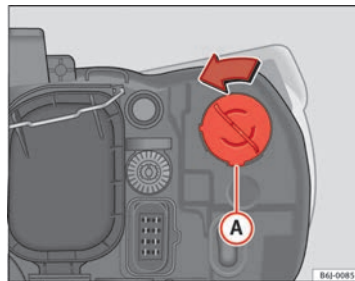

Fig. 163 Turn signal
- Rotate the bulb holder ⇒ fig. 163  to the left and pull.